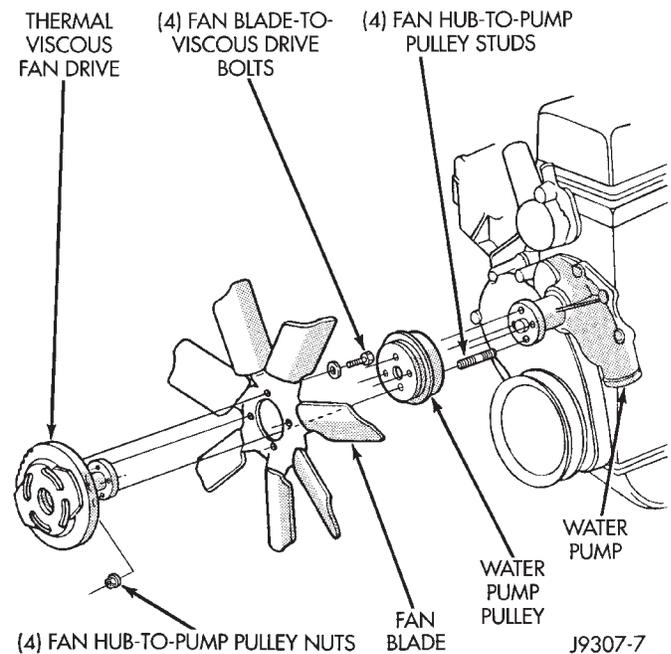

Fig. 68 Fan Mounting Nuts—4.0L 6-Cyl. Engine
(1) Remove the four fan hub-to-water pump pulley mounting nuts (Fig. 68). Carefully remove the fan assembly from the water pump pulley and position to center of fan shroud. Fan belt removal is not necessary as the water pump studs will hold the pump